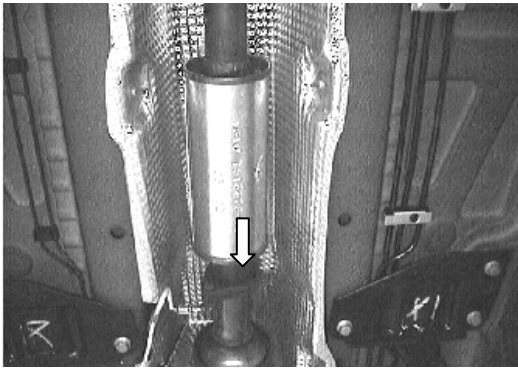

Figure 1
1. Unbolt flange shown in figure 1 just ahead of the front muffler assembly.